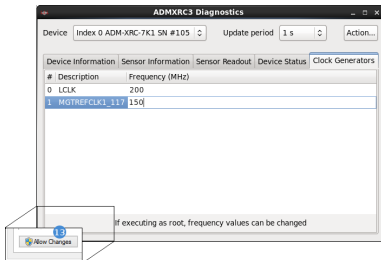

Figure 7 : SYSMON clock generator tab
- In versions of Windows with User Account Control (UAC), i.e. Windows Vista and earlier, **SYSMON** must be launched by a user in the Administrators group, which enables the **Allow Changes** button (labeled 13 in Figure 7). Clicking **Allow Changes** causes **SYSMON** to re-launch itself elevated. Once **SYSMON** is running elevated, frequencies can be changed.